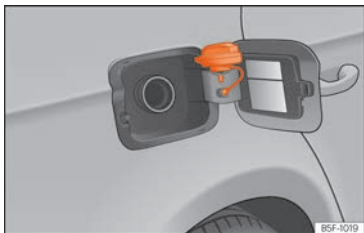

Fig. 308 Fuel tank flap with tank cap attached.
- Place it in the space on the hinge of the open flap »» Fig. 308.